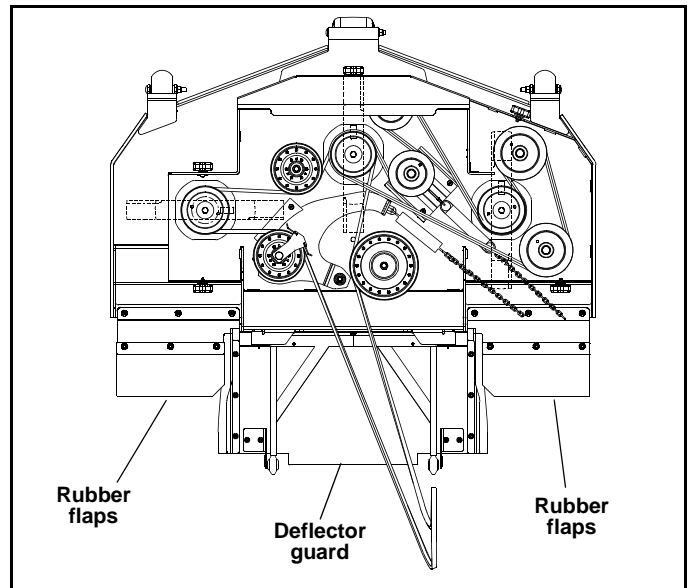

Figure 3-13
**Rear Discharge Decks** – Never direct the discharge of material from the mower deck toward bystanders. Do not operate the mower without the rear discharge rubber flaps or power unit deflector in place. Figure 3-13